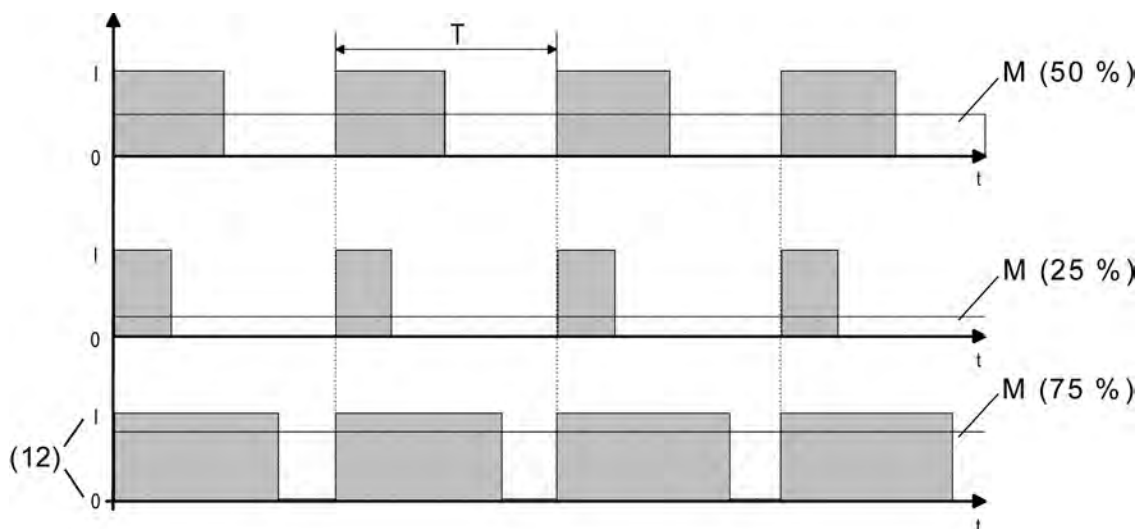

Figure 42: Pulse width modulation of a valve output signal
As soon as that device should set a constant command value or a valve setpoint position value configured in the ETS, it modulates the output signal using the switch-on pulse width. Taking the cycle time (T) settable in the device into account, the average output signal (M) resulting from this modulation is a measure of the centred valve position of the control valve and thus a reference for the set room temperature (figure 42).